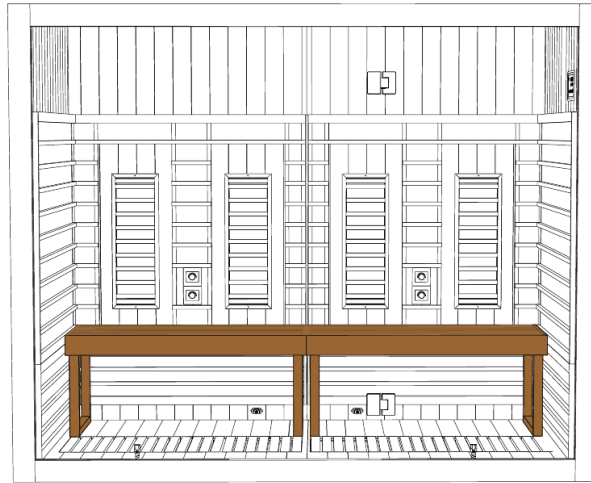

Figure 14. The two benches placed on their supports across the Back Panel, seen from the front.
- Place the two benches on their supports across the Back Panel (B), one on the left half and one on the right half, as shown in **Figure 14**. No tools or hardware are needed; the benches remain movable.